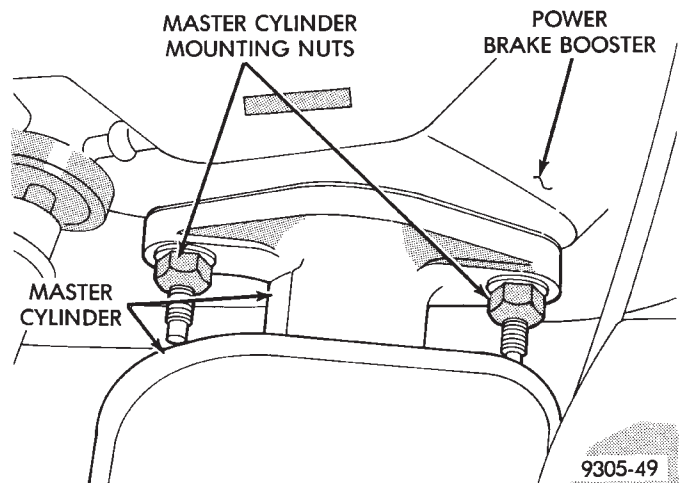
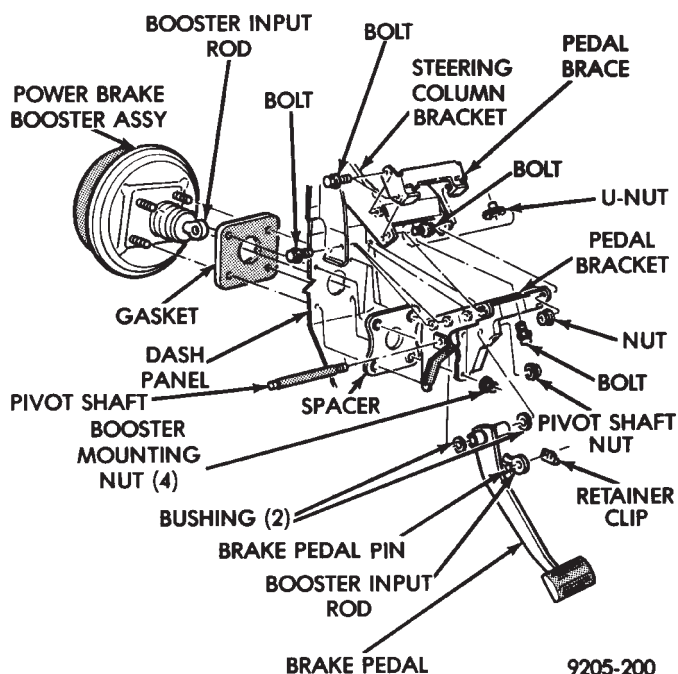

Fig. 88 Master Cylinder Mounting
Fig. 89 Power Brake Booster Mounting
- (1) Remove both wiper arm assemblies.
- (2) Remove cowl panel cover to expose windshield wiper module.
- (3) Remove the 5 screws attaching the windshield wiper module to the dash panel. Remove the windshield wiper module from the vehicle.
- (4) Remove the 2 nuts (Fig. 88) attaching the master cylinder to the vacuum booster.
- (5) Carefully slide master cylinder off vacuum booster with brake lines attached, and place it against left shock tower.
- (6) Disconnect vacuum hose from power brake booster check valve. **DO NOT REMOVE CHECK VALVE FROM POWER BRAKE BOOSTER.**
- (7) From under instrument panel, position a small screwdriver between the center tang on the power brake booster input rod to brake pedal pin retaining clip.
- (8) Rotate screwdriver enough to allow retainer clip center tang to pass over end of brake pedal pin and pull retainer clip off pin. **Discard retainer clip it is not to be reused, replace only with a new retainer clip.**
- (9) Remove the four nuts that attach the vacuum booster to the vehicle dash panel. Nuts are accessible from under the dash panel in the area of the steering column and pedal bracket (Fig. 89).
- (1) Position vacuum booster on dash panel.
- (2) Install and tighten the 4 power brake booster to dash panel mounting nuts (Fig. 89) to 29 N·m (250 in. lbs.) torque.
- (3) Carefully position master cylinder on vacuum booster.
(4) Install and tighten the 2 master cylinder to vacuum booster mounting nuts (Fig. 88) to 29 N·m (250 in. lbs.) torque.
(5) Connect all vacuum hoses onto the vacuum booster check valve.
(6) Using lubriplate, or equivalent, coat the bearing surface of pedal pin (Fig. 89).
(7) Connect vacuum booster input rod to brake pedal pin and install a **NEW** retainer clip. **Use only a new retainer clip DO NOT USE the old clip.**
(8) Check stop light operation.
(9) Install the windshield wiper module back into the dash panel opening. Install the 5 windshield wiper module attaching bolts and securely tighten.
(10) Install cowl panel cover.
(11) Install the windshield wiper arm assemblies back on pivots. Connect windshield washer hoses.